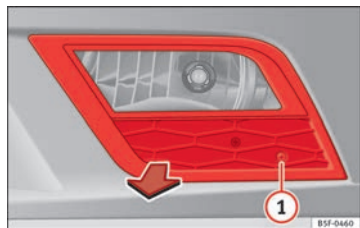

Fig. 171 Fog light.
- Remove the bolt ⇒ Fig. 171 ① from the fog light grille with a screwdriver.